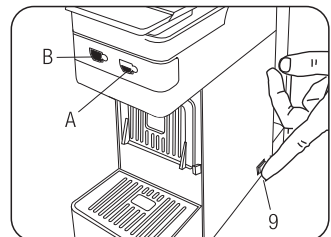

Fig.4
- Power the coffee machine by turning on the main switch (9) (**Fig.4**)
- Buttons (A) and (B) will start to flash; after about a minute the lights remain permanently on and the machine is ready for use (**Fig.4**)